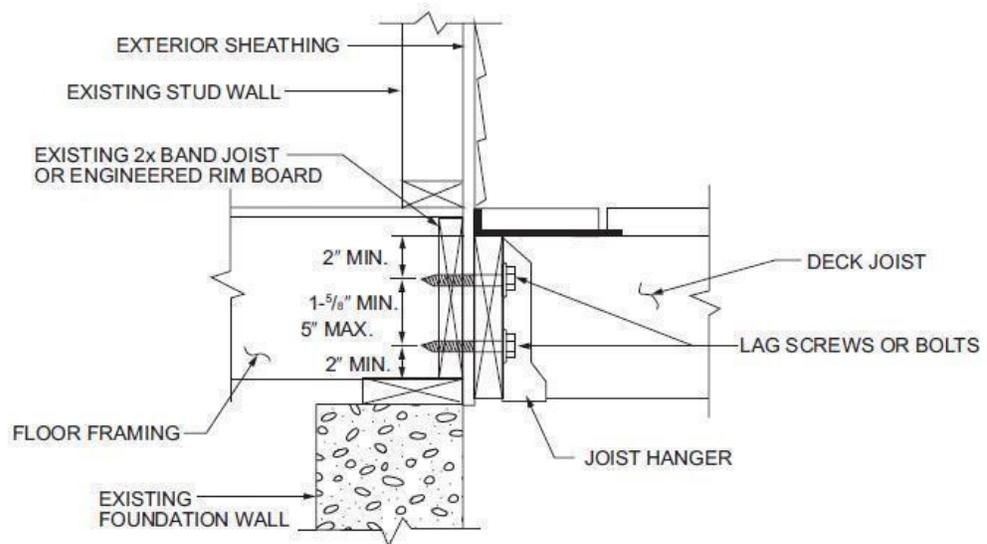

FIGURE R507.2.1(2)
Fasteners used in deck ledger connections in accordance with Table R507.2 shall be hot-dipped galvanized or stainless steel and shall be installed in accordance with Table R507.2.1 and Figures R507.2.1(1) and R507.2.1(2). inches may be reduced to 3/4 inch when the band joist is directly supported by a mudsill, a header or by double top wall plates